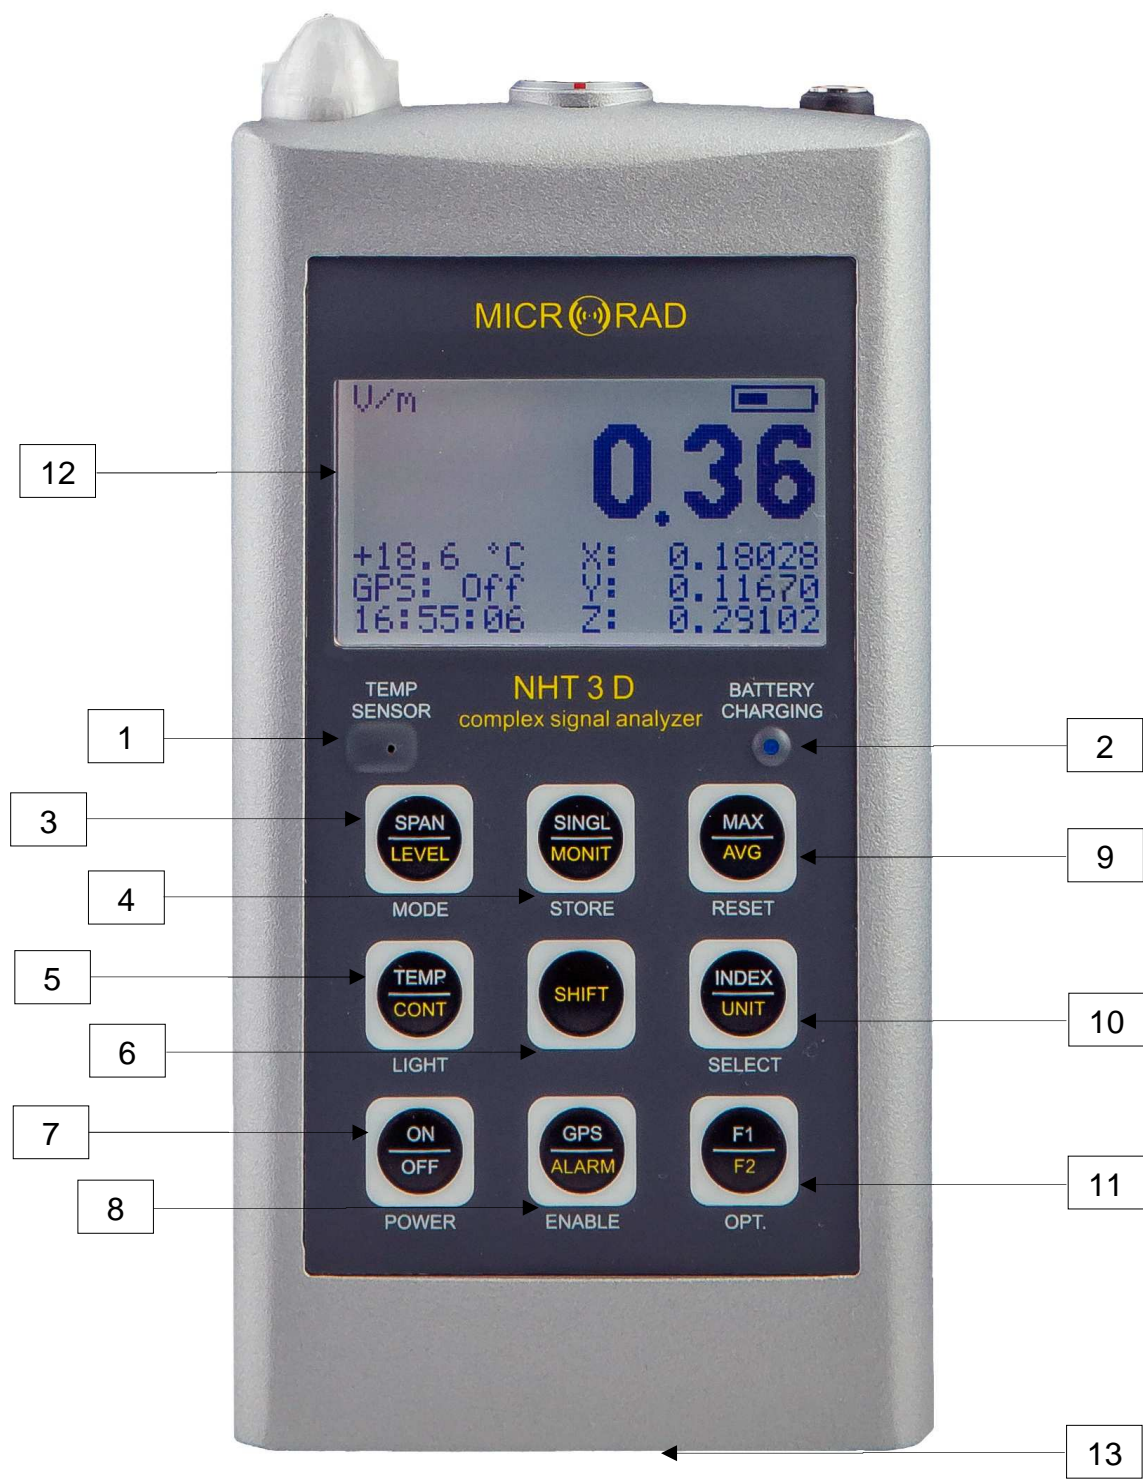

Fig. 4.1 – Base unit front view
The following table refers to Figure 4.1 which shows the keyboard and the main parts on the NHT-3D base unit front panel.
During the batteries charging cycle, the blue LED (figure 4.1, item 2) lights up with the following meanings:
Press POWER ON KEY (item 7, fig. 4.1).